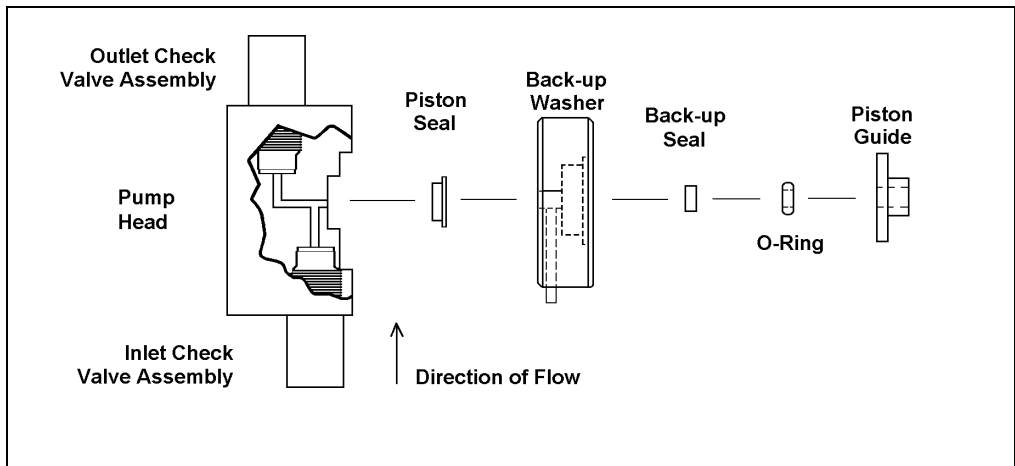
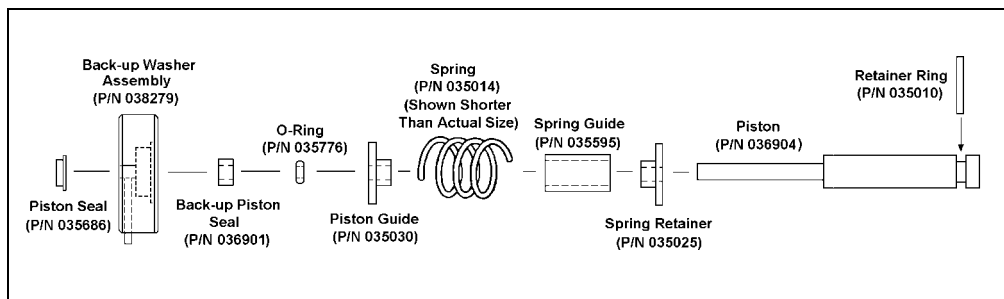

Figure 5-2. Pump Head Assembly (P/N 057853)
Figure 5-3. Piston Assembly
4. Disconnect the tube fittings from both the inlet and outlet pump check valve housings (see Figure 5-2).
3. Disconnect the tube fittings from the inlet and outlet check valves (see Figure 5-2).
6. Place the head, front end down, on a clean work area. Lift off the piston guide and back-up washer to expose the seal (see Figure 5-2 and Figure 5-3).
12. Remove the spring, spring guide, spring retainer, and piston from the pump housing (see Figure 5-3). Inspect the interior of the housing for liquid and corrosion. Clean up any spills and carefully clean any signs of corrosion from the interior of the housing.
17. Reconnect the liquid lines to the inlet and outlet check valves on the pump head assembly (see Figure 5-2).
6. Remove the piston guide, spring, spring guide, spring retainer, and piston by pulling them straight out, away from the pump housing (see Figure 5-3).